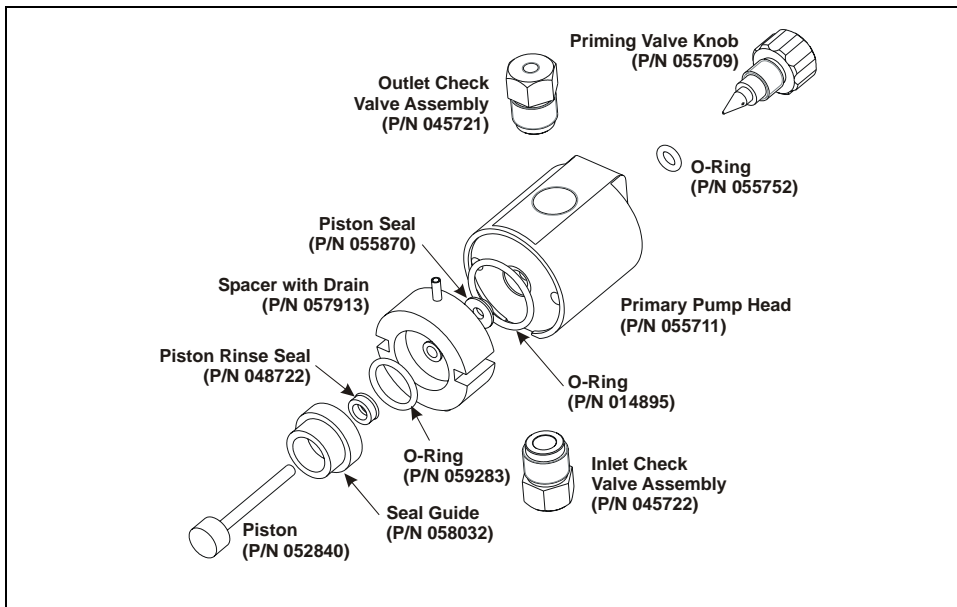

Figure 5-5. Primary Pump Head
5. Place the head (front end down) on a clean work surface and lift off the spacer to expose the piston seal (see Figure 5-5 or Figure 5-6).